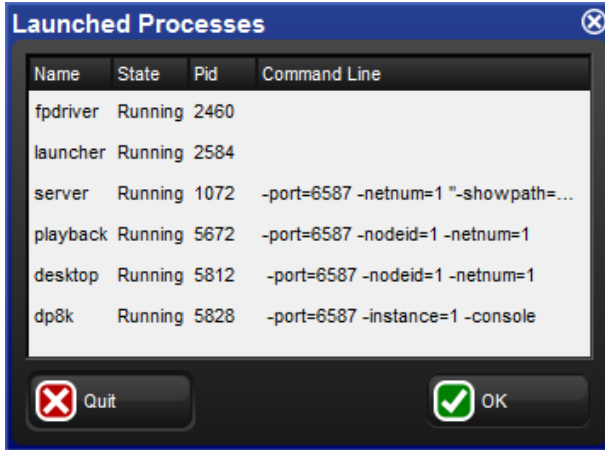

Figure 32.1. The Launched Processes window
1. **Fig + Open + Backspace** : open the Launched Processes window; see *Figure 32.1, "The Launched Processes window"*.